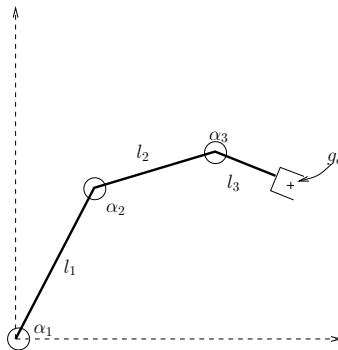

Figure 2: Planar 3R Manipulator.
**Problem 1.** [30 pts] Work out the inverse kinematics for the three-link rotational planar manipulator depicted in Figure 2. Since it is fully controllable, we can use a version of Pieper's solution for the plane, but use the geometric method (from the homework) for the position part.
- (a) For link lengths  $l_1 > l_2 > l_3$ , what are the inverse kinematics for the manipulator depicted in Figure 2.
**Problem 3.** [40 pts] Let's consider the three-link rotational planar manipulator from the previous homeworks, c.f. Figure 2. The link lengths were specified to be  $l_1 = 1$ ,  $l_2 = \frac{1}{2}$ , and  $l_3 = \frac{1}{4}$ . Let's work out how to get trajectories in the  $\alpha$  space given a desired trajectory in the  $(x, y)$ -position space. Here we will be ignoring the orientation. That makes our robot a kinematically redundant manipulator since the input space is three dimensions and the output space is only two.